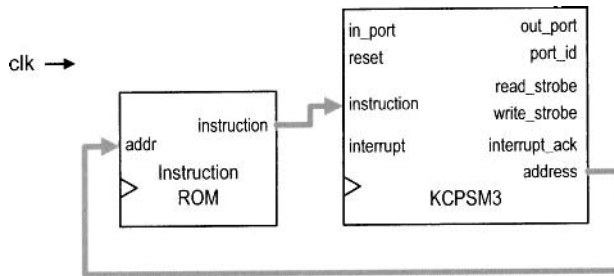

Figure 14.3 Top-level diagram of PicoBlaze.
During synthesis, a PicoBlaze system is organized as two top-level HDL modules, as shown in Figure 14.3. The KCPSM3 module is the PicoBlaze processor. KCPSM3, which stands for *constant (K) coded programmable state machine*, reflects the original name of the PicoBlaze processor. It has following input and output signals: